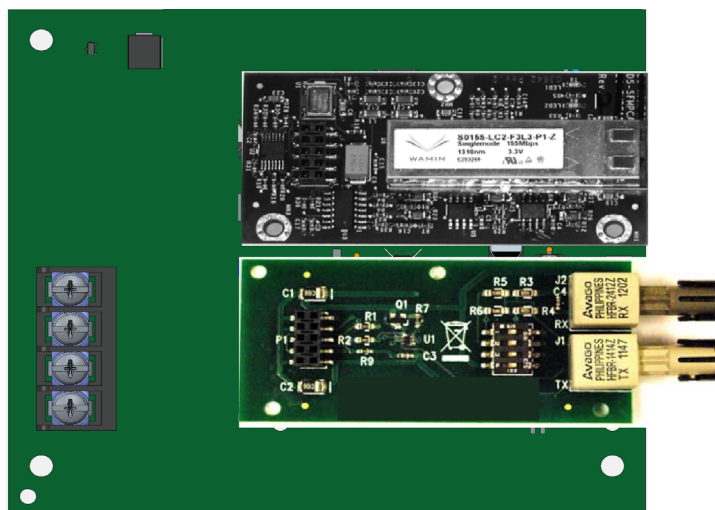

Figure 5.4 SK-NIC with Fiber Loop Modules
Each fiber loop module can Transmit (TX) and Receive (RX) fiber-optic cable connecting to the SK-NIC. Up to two fiber loop cards can be added to the SK-NIC, and both cards may be combined in the same configuration. See Figure 5.4.